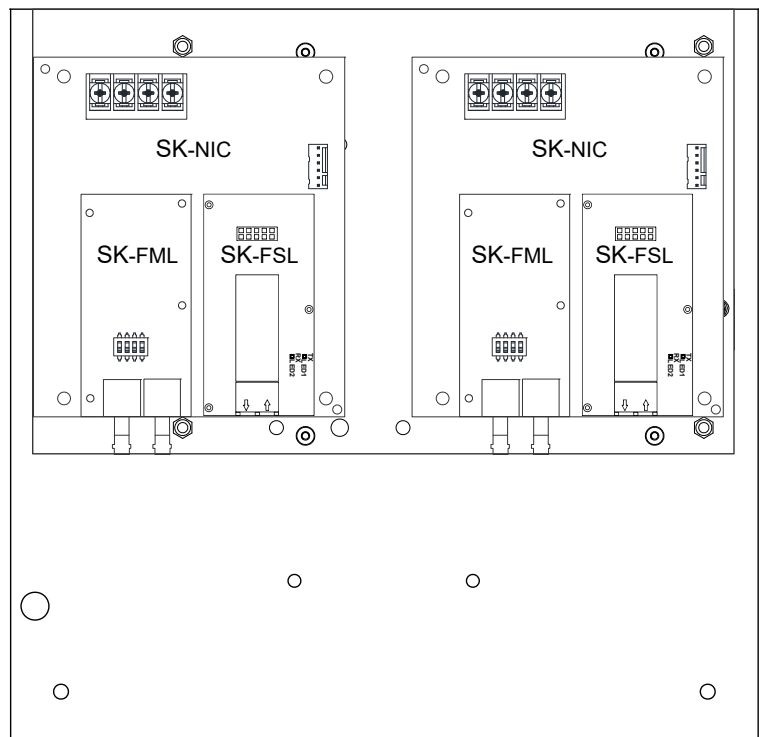

Figure 4 SK-NIC Installed in Cabinet
5. Insert four supplied, plastic standoffs for each SK-NIC board into the metal plate as shown in Figure 4.